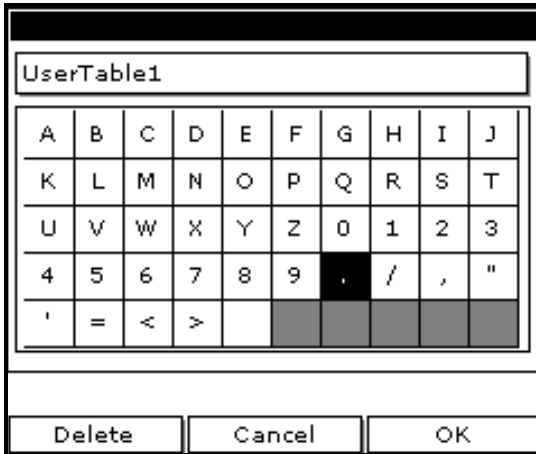

Figure 28: Text Creation Window
3. Use the arrow keys to move to the Table ID box and press [ENTER]. A screen similar to Figure 28 appears.